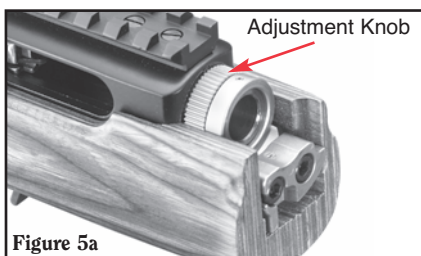

Figure 5a
2. Loosen the adjustment knob by turning it *clockwise* as far as possible with finger pressure. (See Figures 5a & 5b.)